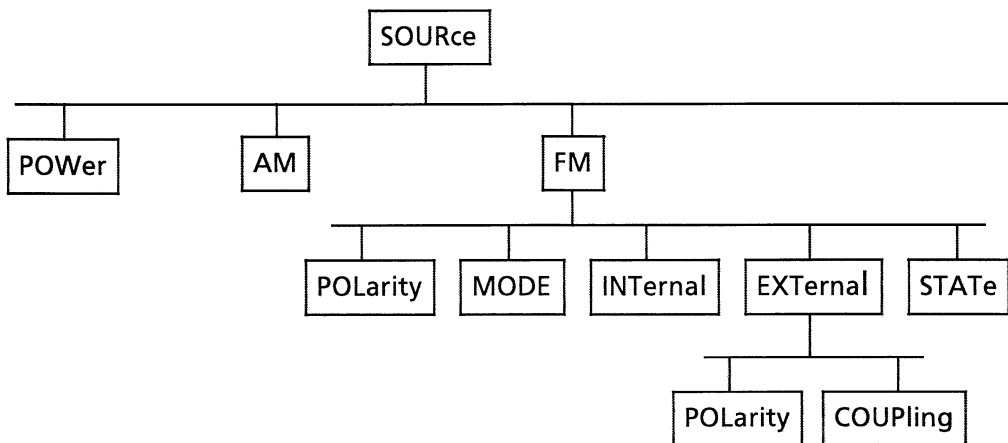

Fig. 3-1 Tree structure of the SCPI command systems using the SOURce system by way of example
SCPI (Standard Commands for Programmable Instruments) describes a standard command set for programming instruments, irrespective of the type of instrument or manufacturer. The goal of the SCPI consortium is to standardize the device-specific commands to a large extent. For this purpose, a model was developed which defines the same functions inside a device or for different devices. Command systems were generated which are assigned to these functions. Thus it is possible to address the same functions with identical commands. The command systems are of a hierarchical structure. Fig. 3-1 illustrates this tree structure using a section of command system SOURCE, which operates the signal sources of the devices. The other examples concerning syntax and structure of the commands are derived from this command system.
**Hierarchy:** Device-specific commands are of hierarchical structure (see Fig. 3-1). The different levels are represented by combined headers. Headers of the highest level (root level) have only one key word. This key word denotes a complete command system..
If the successive commands belong to the same system, having one or several levels in common, the command line can be abbreviated. To this end, the second command after the semicolon starts with the level that lies below the common levels (see also Fig. 3-1). The colon following the semicolon must be omitted in this case.